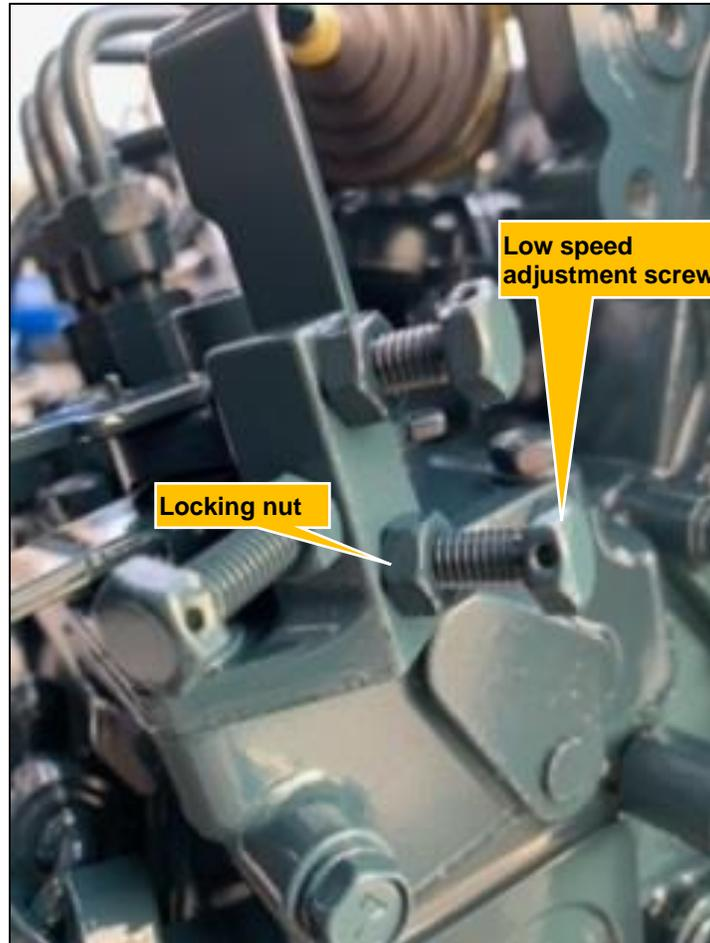

Figure 3
6. Loosen the locknut on the lower throttle adjustment bolt and turn the bolt clockwise 1/8 turn to raise the engine rpm and tighten the throttle adjuster bolt locking nut (Figure 3).